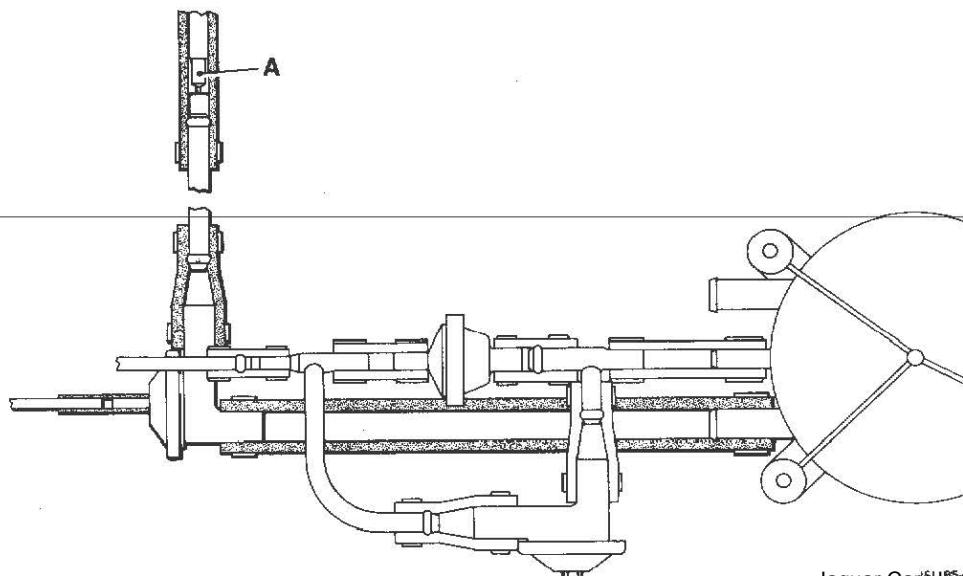

FIG. 7
27. Fit the restrictor, CBC 6633, in the bore of the hose (Fig. 7 A).